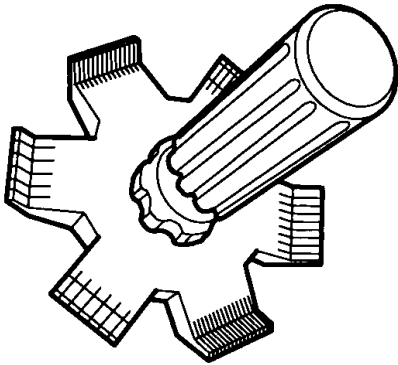

Figure 53 Fin Straightening Tool
6. Clean all foreign material from condenser and radiator fins. As often as necessary, squirt water through the condenser towards the radiator and through the radiator towards the condenser to flush debris from the fins. Straighten bent fins with a fin straightening tool (Figure 53).